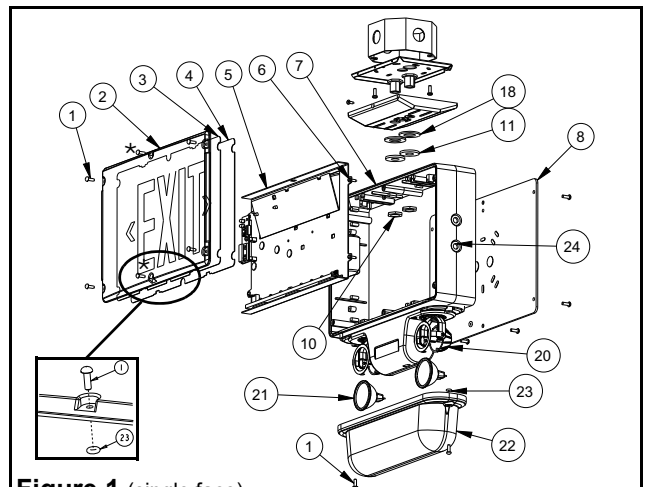
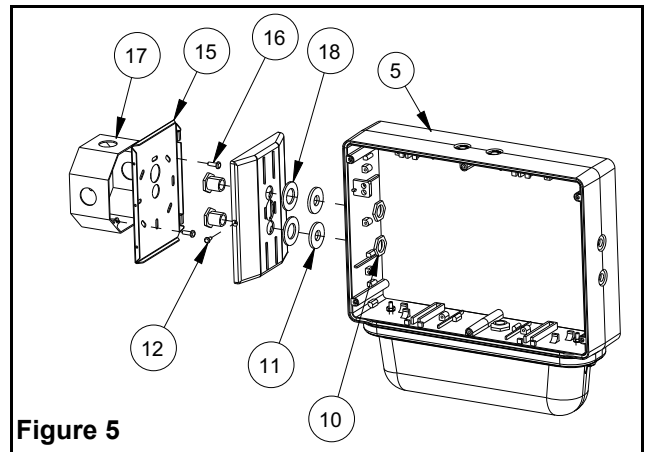

Figure 1 (single face)
Figure 5
- c. Remove proper knockouts in canopy backplate for desired mounting position. **For Nexus wired option**, install the liquidtight™ fitting, provided with the unit. For side mount, use the knockout located on top of the unit. For ceiling mount, use the knockout located on side of the frame (see fig. 5).
- e. Make sure the securement screw is accessible (see fig. 1 & 2 part # 13). Use existing screws in junction box to secure canopy backplate to the junction box.
- h. Determine which holes in the exit frame will be used for mounting (see fig. 1,2 & 5). Support frame with two blocks of wood, maximum one inch apart. Strike knockouts with a hammer and screwdriver. Clear holes of burrs to allow proper assembly of nipple/wire assembly. Note: end mount installation is weatherproof but not certified for Nema 4X (see fig. 5).
- i. Secure canopy to the frame by threading the provided nipple/wire assembly through the canopy and frame. Make sure the gasket washers are between the canopy and frame, and that the locknuts(11) are inside the exit sign (see fig. 5).